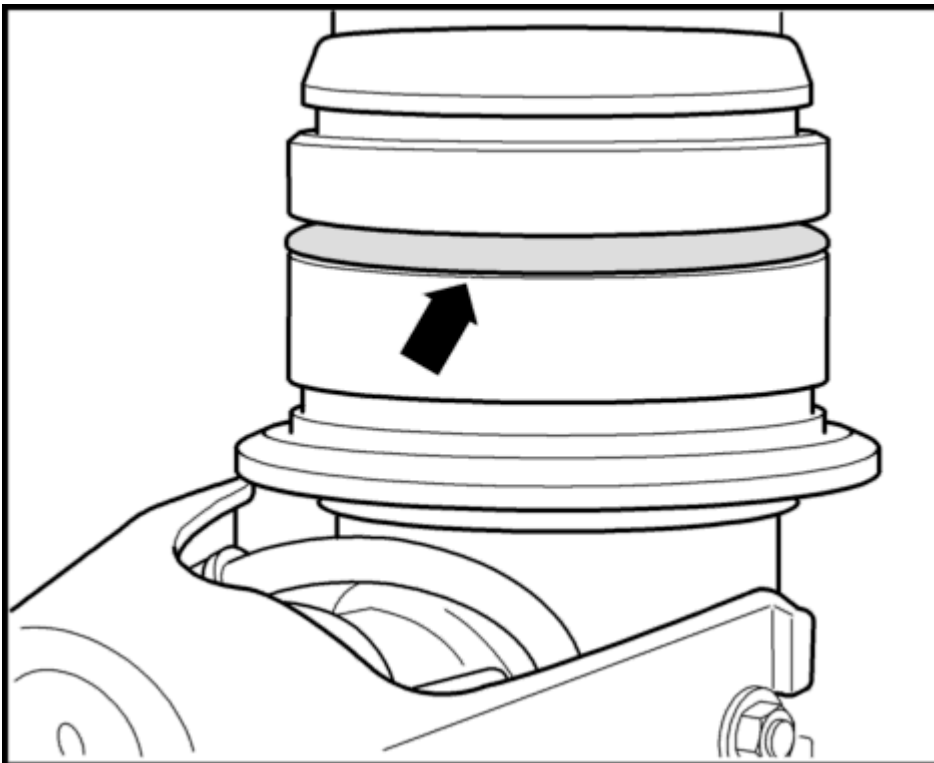

Fig. 43: Shock absorber sealing ring
1. Replace sealing ring on shock absorber -**Arrow**- (figure shows rear shock absorber). See **Fig. 43**.